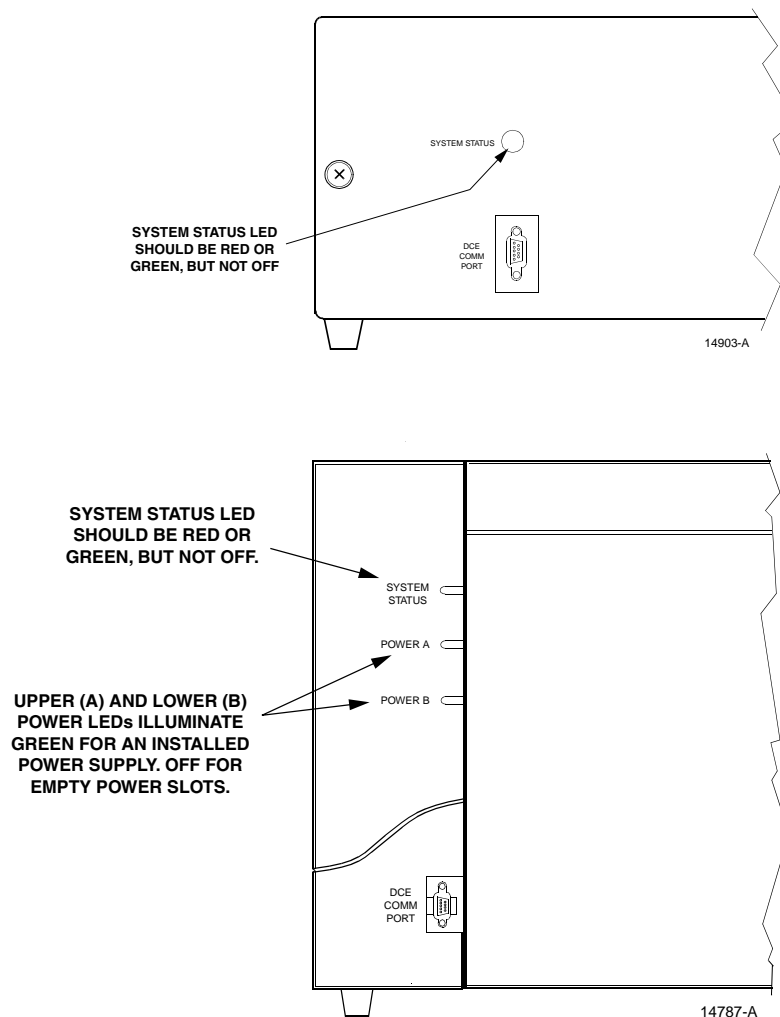

Figure 18: System Status and Power LEDs
Other indicators of a successful power up are the front-panel LEDs. See Figure 18.
1. Verify that at least one power LED is green. If all power LEDs are off, the chassis is not receiving required power. See Figure 18.